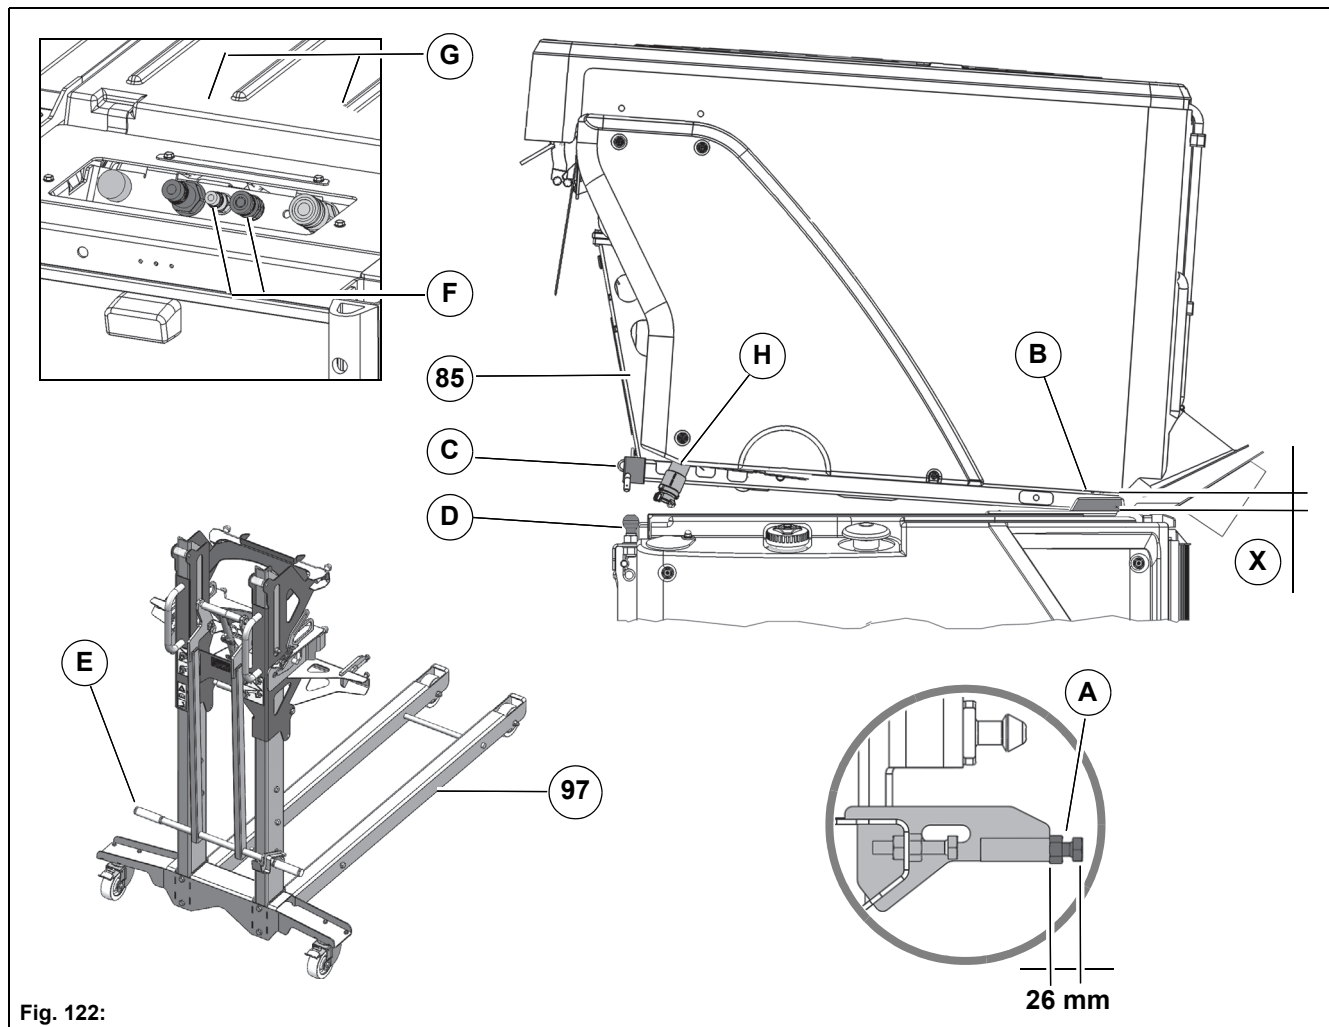

Fig. 122:
- Position the dirt hopper over the rear wagon and check the gap size **Fig. 122-X** with 5-10 mm. If necessary, correct with the screw **Fig. 122-A**.
- Push the rollers of the dirt hopper up into the pockets **Fig. 122-B**.
- The fixed bearings **Fig. 122-C** of the dirt hopper and the holders **Fig. 122-D** of the rear wagon must be in alignment.
10. Unlock the lever **Fig. 122-E** of the trolley **Fig. 122-97** and swing it into the upper position. Let the dirt hopper down slowly! Withdraw the trolley and close the lid.
- Lift system hydraulic cylinder – supply/return = **Fig. 122-F**
- Suction fan hydraulic motor – supply/return = **Fig. 122-G**
- Circulating water = **Fig. 122-H**